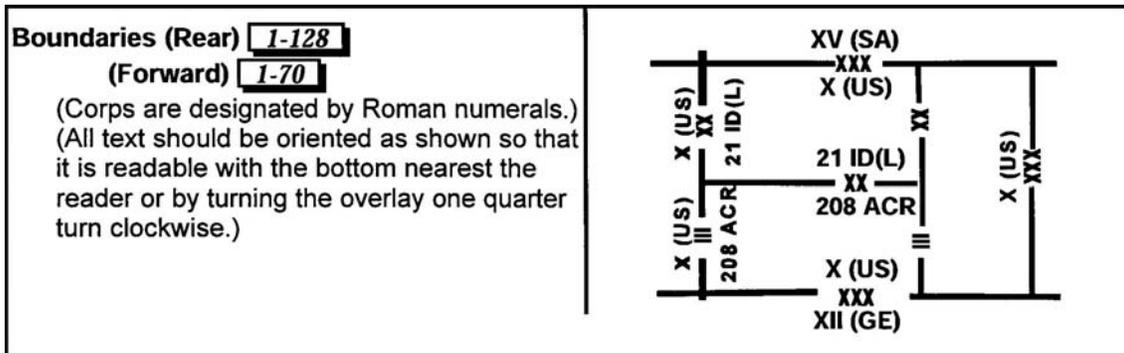

Figure 071-332-5000-1. Rear boundary.
- (2) Rear boundaries are used when the area of responsibility for forward units must be precisely defined. When a rear boundary is not delineated, the rear limit of a unit's area of responsibility is determined by visualizing a rear boundary drawn generally parallel to the front, along a natural terrain feature, and connecting at the rearward limit of the unit's lateral boundaries.
- (3) Mark rear boundary as shown. Ensure the size indication along the boundary corresponds to the low unit. Arm or branch is shown when required to prevent confusion (figure 071-332-5000-1).